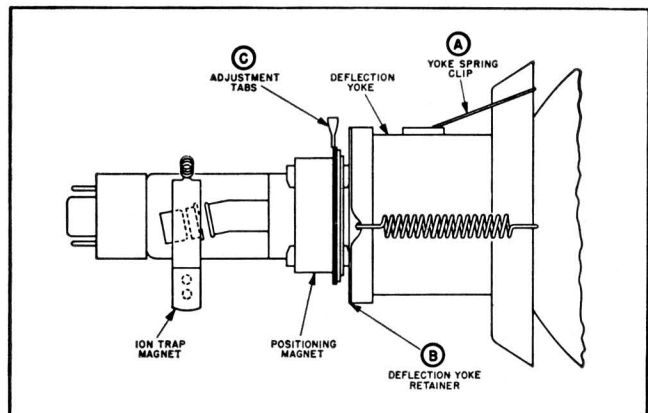

Figure 18.
1. Place the ion-trap approximately as shown in figure 18. NOTE: A magnetic shunt may have been clipped on the ion-trap magnet at the factory. Do not disturb this shunt.
**DEFLECTION YOKE ADJUSTMENT.** — If the picture is tilted, squeeze the ends of the yoke spring clip (A in Figure 18) together and lift them off the CRT support ring. Rotate the yoke until the picture is horizontal. The deflection yoke retainer (B in Figure 18) may rotate with the yoke. If this occurs the retainer should be held in position while the yoke is rotated, making sure that the yoke end cover rotates with the yoke. When the deflection yoke has been properly adjusted, reset the spring clip to hold the yoke in position.
2. Bring the protruding adjustment tabs (C in Figure 18) together.